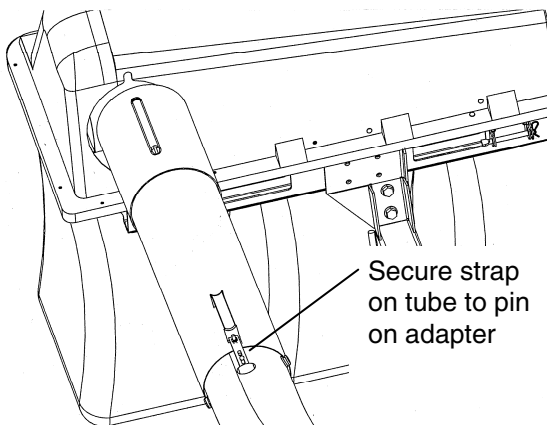

Figure 8
3) Slide the middle tube down over the grass bag adapter. Pull the rubber strap and place the hole in the strap completely over the latch pin, securing the middle tube to the grass bag adapter. See Figure 8.